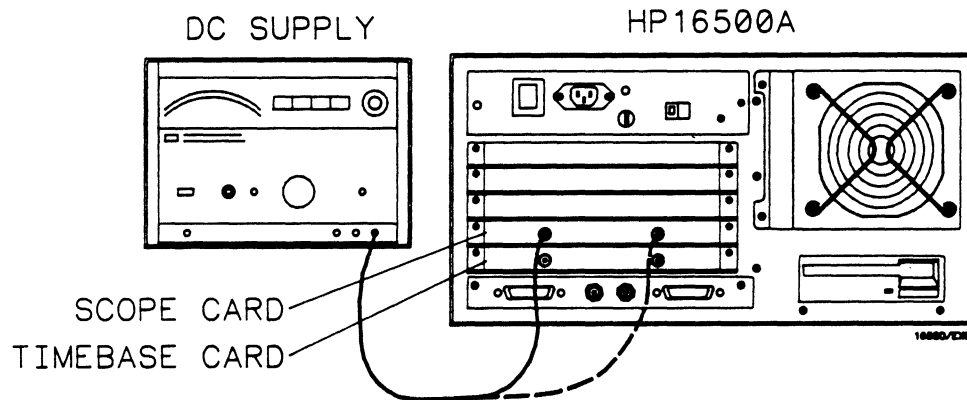

Figure 3-10. Voltage Measurement Accuracy Test Equipment Hookup
- g. Set dc supply to 100 mV and connect to channel 1. See figure 3-10. Voltage limits are now from (+81 mV + V_x measured in step f) to (+119 mV + V_x measured in step f).